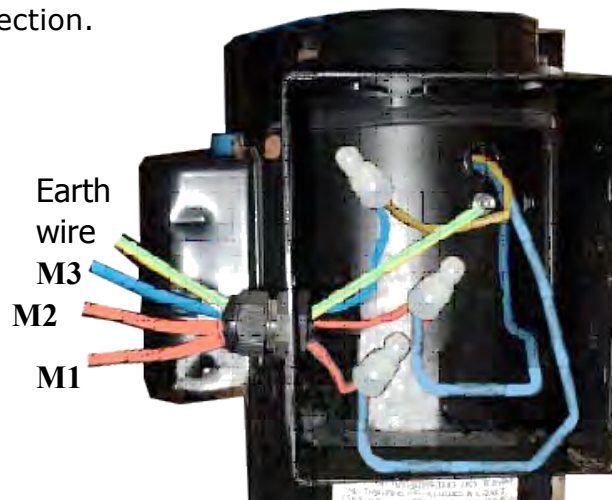

Fig.31
3.2 Wire connection diagram of Three phase hydraulic motor (See Fig. 31).